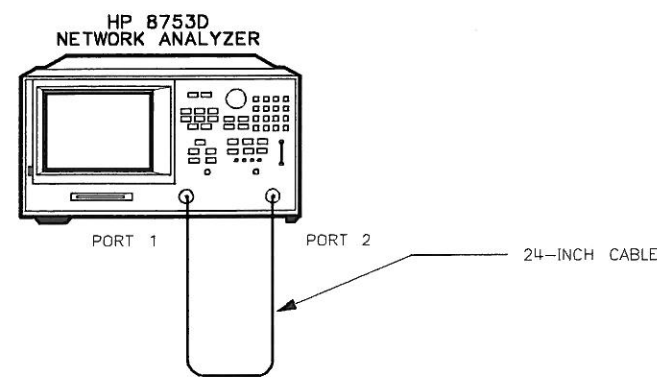

Figure 1-26. Test Port 1 Input Frequency Response Test Setup
25. When the analyzer displays the message POWER METER CALIBRATION SWEEP DONE, connect the equipment as shown as in Figure 1-26.